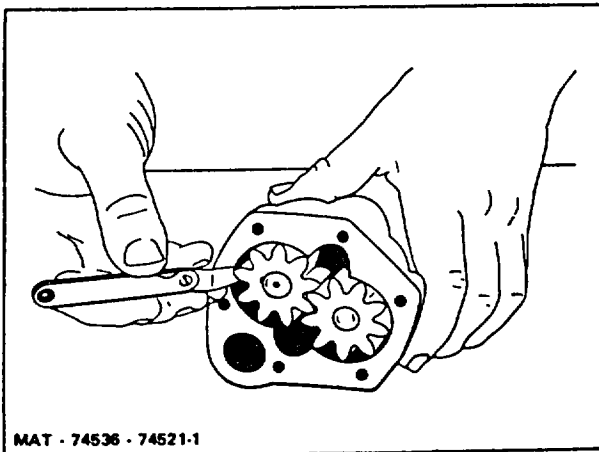

Figure 68. Checking Oil Pump Gear Clearance in Pump Body
4. Examine the gears and pump body for any sign of wear indicating lack of clearance. The gears should have from .001" to .003" clearance in the chamber and should make no contact with the walls (Figure 68).